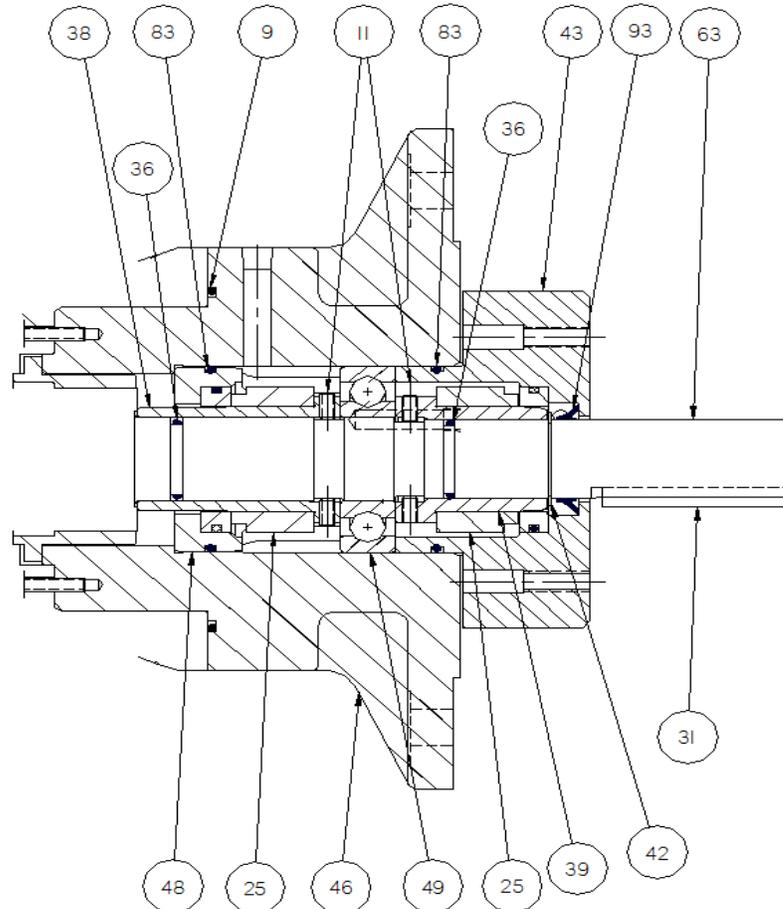

Figure 2
NOTE: Part number identifiers (IDP's) contained within parenthesis such as (10) refer to circled numbers shown on assembly drawing, figure 2 and Table 2.
H.3 DISASSEMBLY PROCEDURES: See Figure 2 on next page and assembly drawing.
6. Remove bolts (47) and bearing retainer (43). If bearing retainer is difficult to remove, it can be jacked off using (2) 3.5" long 3/8 hex head bolts supplied in major and minor kits. Remove tubes (85) with O-rings (40) from bearing retainer (43) or inboard cover (46). Remove O-rings (85) from tubes (40). Remove seal stationary seat from bearing retainer (43) and O-rings from seal stationary seat. Remove O-ring (83) from bearing retainer (43).
7. Remove assembled power rotor (63) from pump. (Helix end of power rotor can be hammered with a dead blow hammer to dislodge power rotor if necessary.) Removal of power rotor (63) includes removal of Truarc ring (42), ball bearing (49), seal sleeves (38 and 39) with seals (25) O-rings (36) and seal seat adapter (48).
8. Disassemble power rotor (63) as follows: (See assembly drawing and Figure 2)